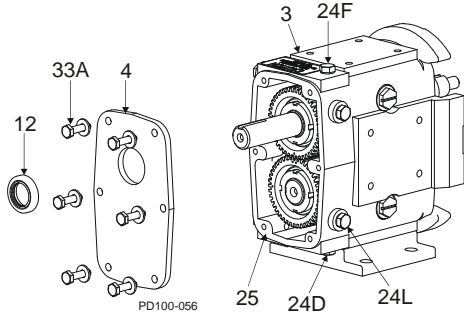

Figure 37 - Remove Gear Case Cover
1. Remove the oil drain plug (Figure 37, item 24D); drain the oil.
2. Remove the cap screws from the gear case (Figure 37, item 33A).
3. Pull the cover (item 4) off the shaft extension. If the cover sticks, use a soft hammer to loosen it.
4. Remove the silicone sealant (item 25) from the gear case and cover.
5. Using an arbor press, remove the oil seal (item 12) from the cover. Discard the used oil seal.